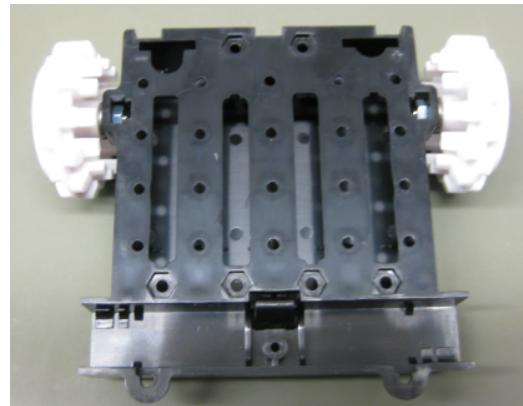

Figure 33: Back Wheels Mounted
Place the M3 nut (A) into each of the two side slots on the back side of the chassis. Insert the bolts (B) through the wheels, with placing an idler sprocket on it (C) (Figure 33). Use a 3 mm hex key (Allen wrench) to tighten the bolts, but be careful not to over-tighten it.
Mount both back wheels the chassis (Figure 33).